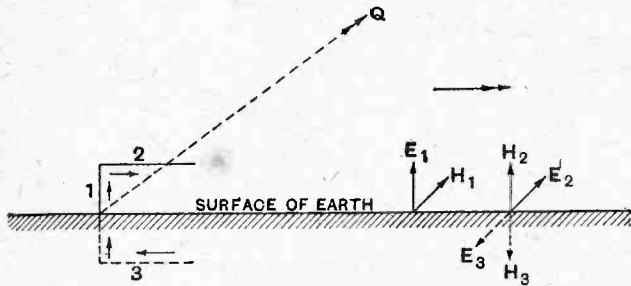

Fig. 8.—Diagram explaining the absence at the earth's surface of horizontally polarised waves in the radiation from an inverted L aerial.
If the aerial possesses horizontal as well as vertical components, as in the inverted L type, it is evident that the former will contribute to the radiation in such a manner as to give a horizontal electric force and a vertical magnetic force at the earth's surface. Illustrating the case diagrammatically in Fig. 8, the electric and magnetic fields marked E_2 and H_2 respectively, due to the horizontal portion of the aerial, will be superimposed on those marked E_1 and H_1 , due to the vertical portion of the aerial. But we must remember that a complete image of the transmitting aerial is formed below the earth, and that therefore the image of the horizontal portion will also contribute to the radiation. A consideration of the case as shown in Fig. 8 will show that at any instant the current in the horizontal member (2) of the aerial is exactly equal to the current in its image (3), and that
It will be noted that in the above discussion it was assumed that the earth possessed an infinite conductivity at wireless frequencies, a state of perfection which evidently cannot prevail in actual fact. The effect of an imperfectly conducting earth is to decrease the equivalent currents in the image, so that in the case shown in Fig. 8 the forces E_3, H_3 will be less than those E_2, H_2 due to the aerial, and there will therefore be a small residuum of horizontally polarised waves sent out along the earth's surface. From a recent experimental determination of the conductivity of the earth, however, it can be shown that the currents in the image are only a few per cent. less than those in the aerial at ordinary commercial wavelengths. We should expect to find that in the radiation